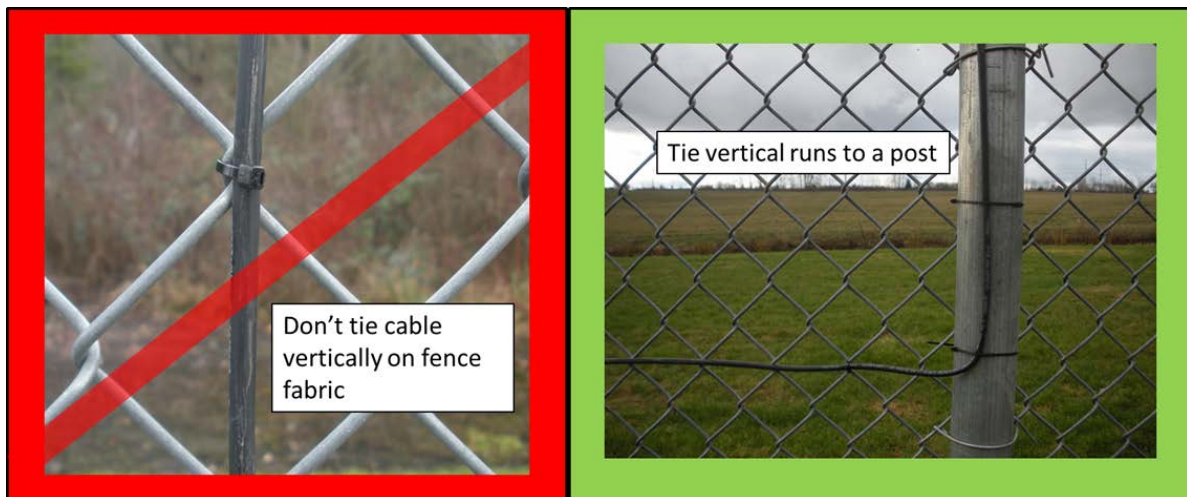

Figure 2-1. Tie vertical runs to a post, do not run the cable vertically on the fence fabric.
2. Only run the fiber horizontally on the fence fabric. When running the fiber vertically, use a fence post (see figure 2-1).